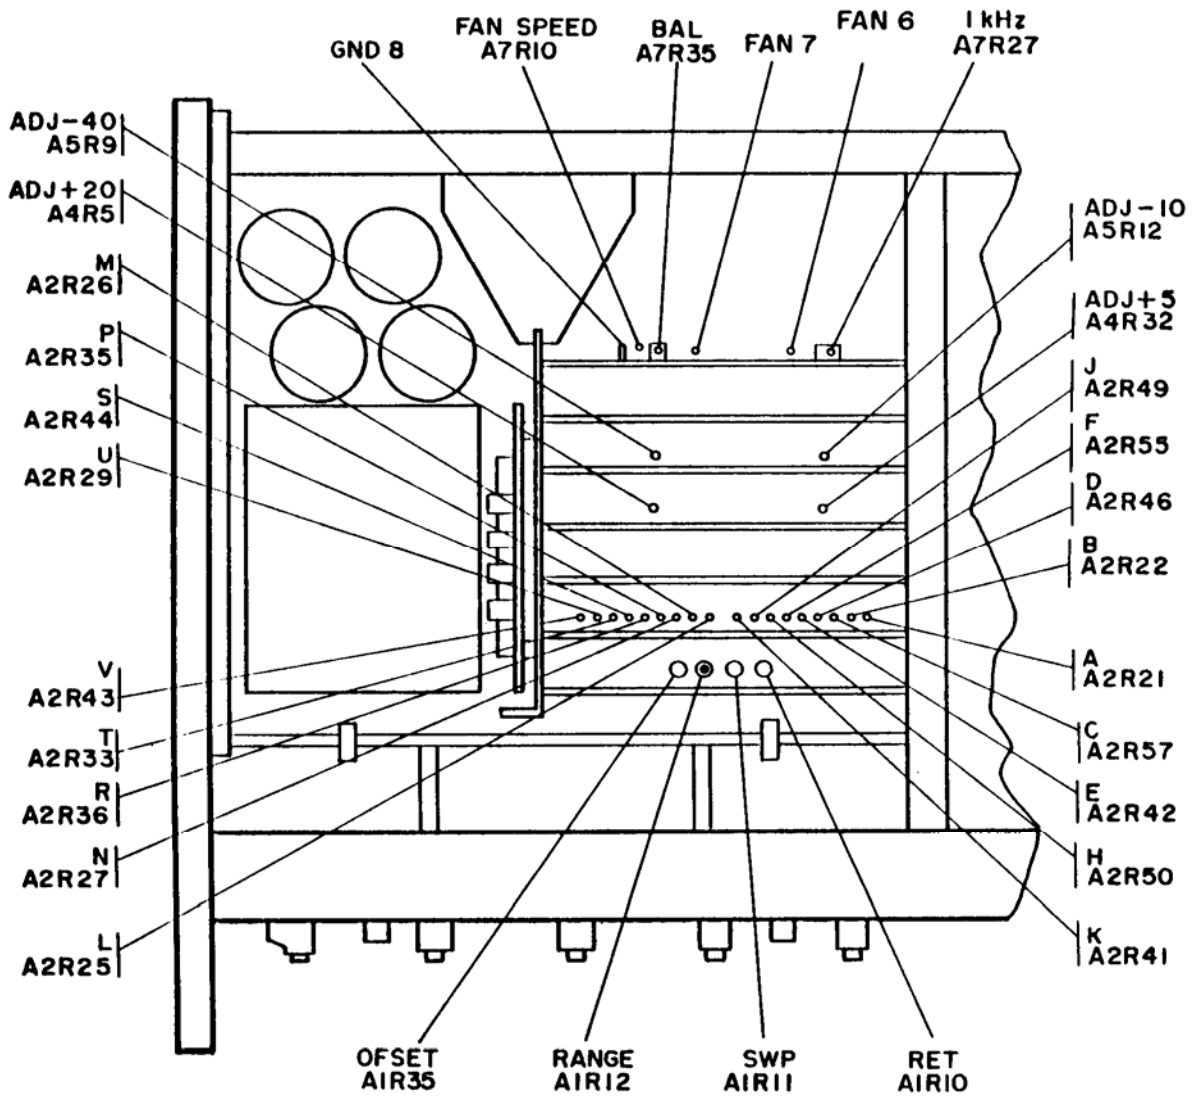
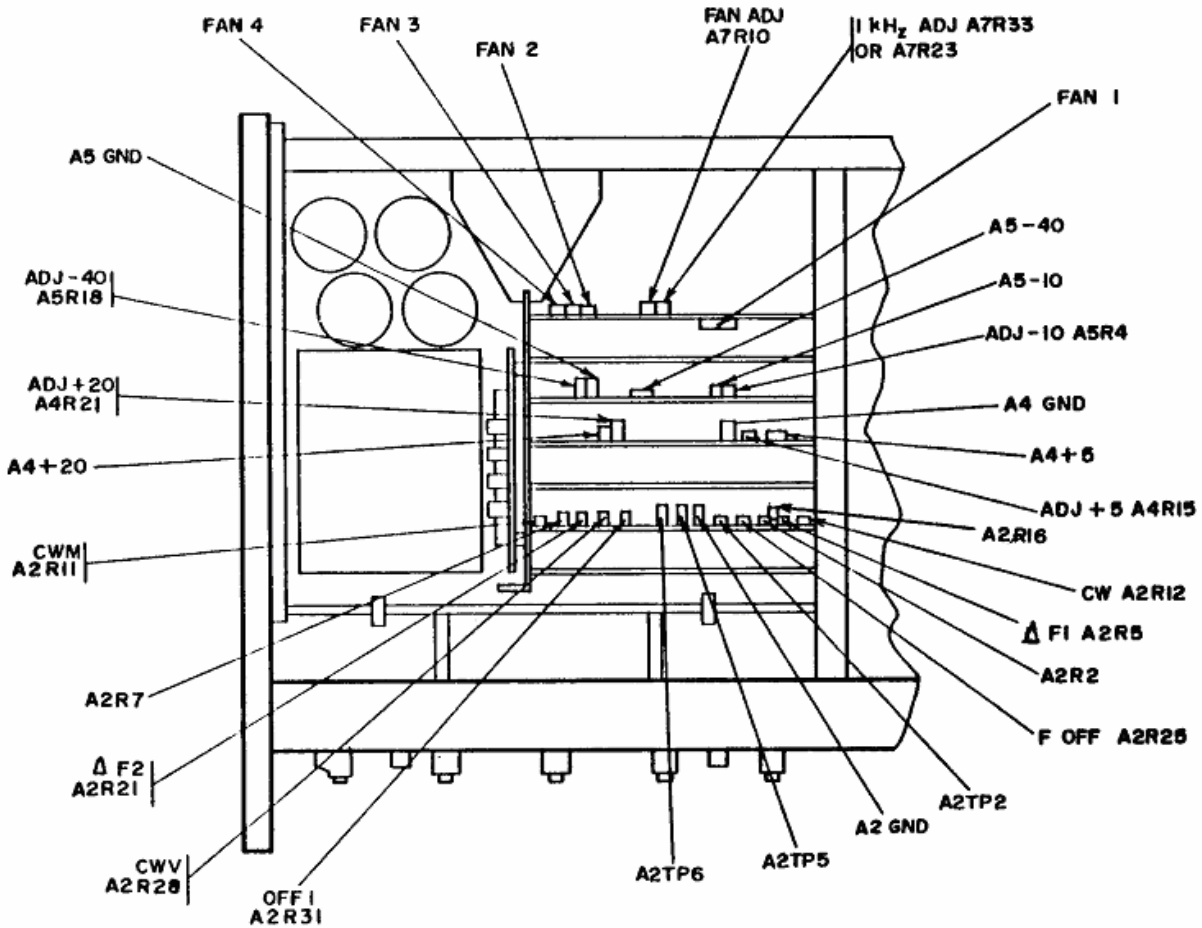
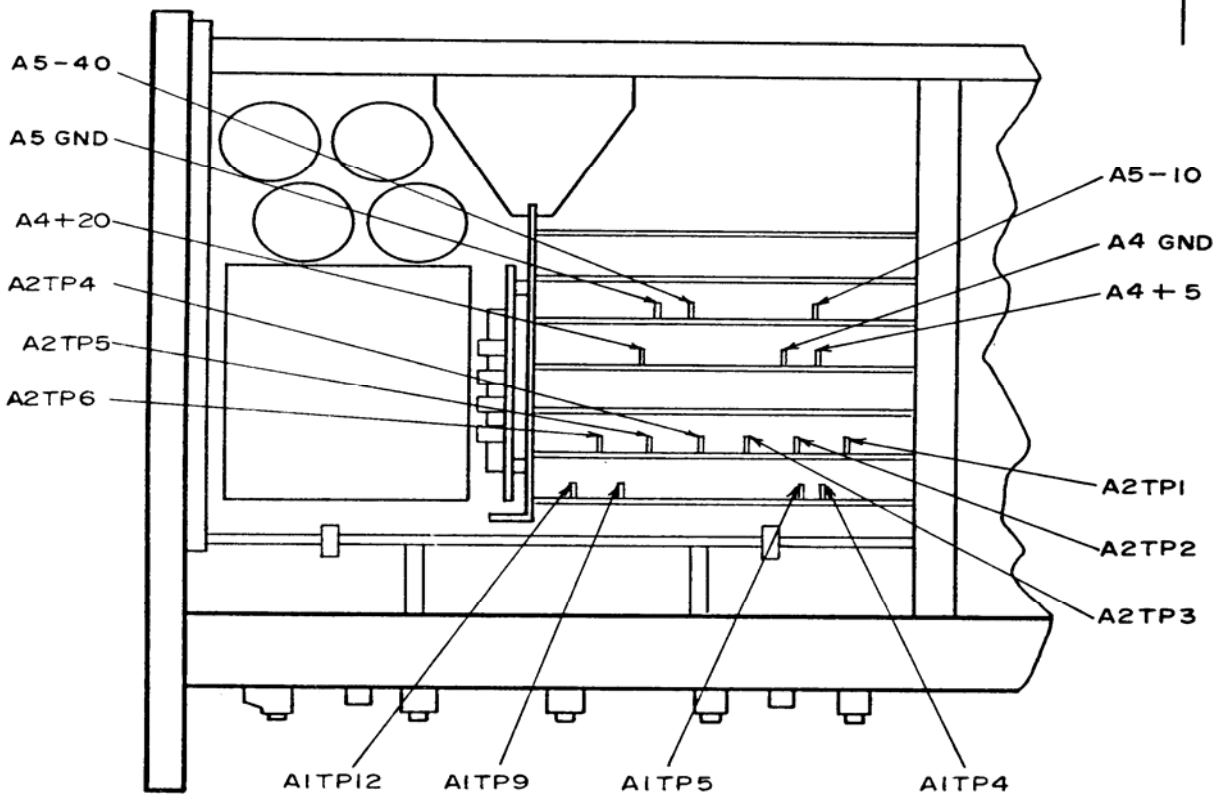

Figure 1. Model 8620C - partial top view.
Figure 2. Model 8620A - partial top view.
Figure 3. Model 8620C - partial top view.
- (3) Set **1 kHz SW WV/OFF (AM-MOD)** switch (rear panel) to **1 kHz SQ WV (1 kHz)**.
- (4) Press **CW** pushbutton and set **RF** switch to **ON**.
- (5) Adjust **POWER LEVEL** control cw to drive microwave frequency counter. If microwave frequency counter does not indicate between 0.95 and 1.05 kHz, perform **b** below.
b. Adjustments. Adjust 1 kHz A7R27 (fig. 1) (A7R23 or A7R33, fig. 2) for 1.00 kHz indication on microwave frequency counter (R).
- (1) Select calibration scale with **BAND** selector.
- (2) Connect multimeter between A2TP3 and A4 GND (fig. 3).
- (1) Adjust A A2R21 (fig. 1) for 0.000 V dc on multimeter (R).
- (2) Adjust B A2R22 (fig. 1) for 10.000 V dc on multimeter (R).
(1) Set **STOP MARKER** (red pointer) to the **0-V** mark on calibration scale.
(2) Connect multimeter to A2TP2 (fig. 3) and ground. If multimeter does not indicate between -0.001 and +0.001 V dc, perform **b** (1) below.
(3) Set **STOP MARKER** pointer to the **10-V** mark on calibration scale. If multimeter does not indicate between +9.995 and +10.005 V dc, perform **b** (2) below.
(4) Set **START MARKER** pointer to the **0-V** mark on calibration scale and connect multimeter to A2TP1 (fig. 3). If multimeter does not indicate between -0.001 and +0.001 V dc, perform **b** (3) below.
(5) Set **START MARKER** pointer to the **10-V** mark on calibration scale. If multimeter does not indicate between +9.995 and +10.005 V dc, perform **b** (4) below.
- (1) Adjust S A2R44 (fig. 1) for 0.000 V dc on multimeter (R).
- (2) Adjust P A2R35 (fig. 1) for 10.000 V dc on multimeter (R).
- (3) Adjust K A2R41 (fig. 1) for 0.000 V dc on multimeter (R).
- (4) Adjust N A2R27 (fig. 1) for 10.000 V dc on multimeter (R).
- (1) Connect multimeter to A2TP5 and A2 GND (fig. 2). Press **CW** pushbutton.
- (2) Set white **CW** pointer to right end of scale (10 V) and make fine adjustments for $+10 \pm 0.001$ V dc indication on multimeter.
- (3) Move positive lead to A2TP6 (fig. 2) and press **START** pushbutton. If multimeter does not indicate between +9.995 and +10.005 V dc, perform **b** below.
- (4) Move positive lead to A2TP5 (fig. 2).
- (5) Press **CW** pushbutton and adjust **CW** control for 4.000 ± 0.001 V dc indication on multimeter.
- (6) Move positive lead to A2TP6 and press **START** pushbutton. If multimeter does not indicate between +3.990 and +4.010 V dc, perform **b** (2) below.
- (1) Adjust CWM A2R11 (fig. 2) for 10.000 V dc on multimeter (R).
- (2) Adjust CWM A2R11 (fig. 2) for 4.000 V dc on multimeter and repeat **a** (1) through (6) above (R).
- (1) Set **STOP MARKER** pointer to the **5-V** mark on calibration scale and adjust **MANUAL** control full ccw.
- (2) Set **START MARKER** pointer to the **0-V** mark on calibration scale and press **MARKER SWEEP** pushbutton.
- (3) Move multimeter positive lead to A2TP5 (fig. 3). If multimeter does not indicate between -0.001 and +0.001 V dc, perform **b** (1) below.
- (4) Set **START MARKER** pointer to the **10-V** mark on calibration scale. If multimeter does not indicate between +9.995 and +10.005 V dc, perform **b** (2) below.
(5) Set **STOP MARKER** pointer to the **0-V** mark on calibration scale and turn **MANUAL** control fully cw. If multimeter does not indicate between -0.005 and +0.005 V dc, perform **b** (3) below.